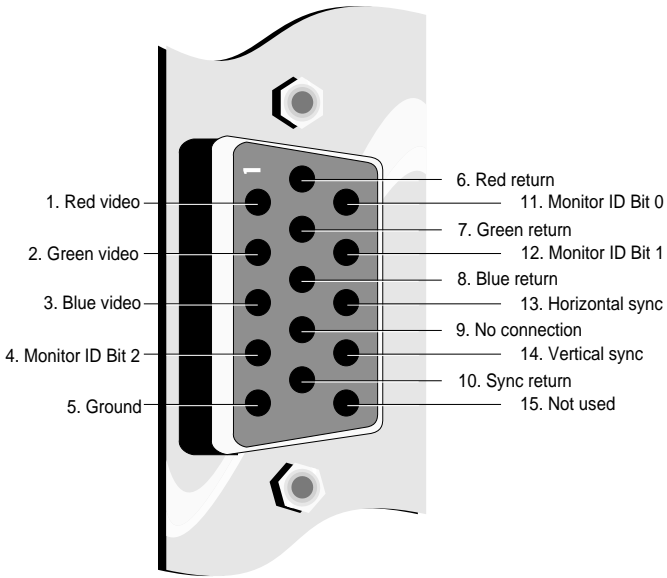

Figure 1.4: Standard 15 pin D-shell Connector
6. Connect your monitor cable to the 15-pin monitor connector on the Celsius/VLB (see Figure 1.4).